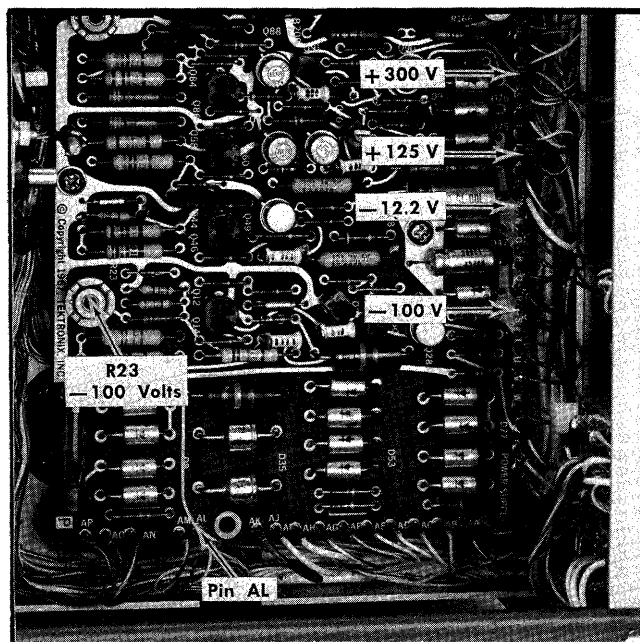

Fig. 5-2. Location of power supply test points and R23, —100 Volts adjustment.
b. Connect the precision DC voltmeter between the —100-volt test point and ground (see Fig. 5-2).
c. ADJUST—R23, —100 Volts (Fig. 5-2) for exactly —100 volts.
a. Connect the precision DC voltmeter between each low-voltage test point and chassis ground. See Fig. 5-2 for test point locations.